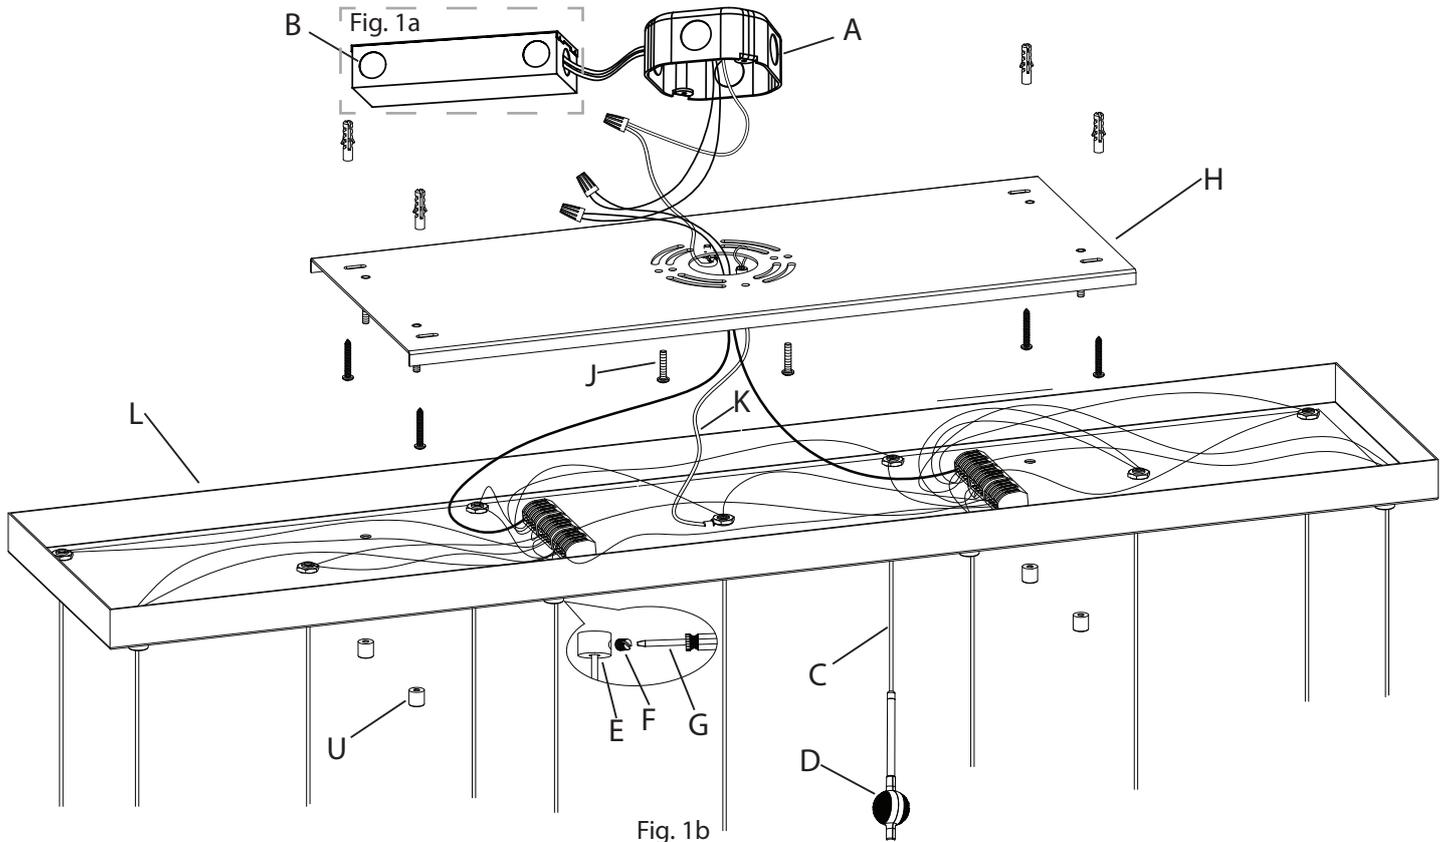

Fig. 1b
1. Shut off power to the Outlet Box (A).
2. Install the Power Supply (B) in a remote and accessible location near the fixture in accordance with local electrical code. Make appropriate electrical connections using wire nuts:
- a. Connect the Power Supply's (B) live wire (black) to the live supply wire.
- d. Connect the Power Supply's positive (+) output wire (red) to the required length of red wire (not included) to reach the Outlet Box (A).
**Power Feed Installation (Fig. 1b):**
3. Feed the Power Connector Cord (C) to the Universal Hub (D) through the Bushing (E) on the Power Feed. Adjust the cord length as desired, and secure with the Slotted Set Screw (F) using the provided Screwdriver (G). Reserve excess Cord in the canopy.
4. Attach mounting plate (H) to the outlet box (A), secure with outlet box screws (J). **CAUTION: Fixture must be supported independent of outlet box. Customer is responsible for ensuring appropriate ceiling construction to support the weight of the fixture.**
5. Loosen the screws on the safety cable coupling (K) and undo the loop. Pass the safety cable through a hole on the mounting plate (H) and insert the end back through the coupling to form a loop. Tighten the coupling screws to secure the safety cable.
6. Connect the fixture wires to the lever nuts (R) by pulling up on the lever for an empty slot, inserting the wire, and pushing the lever back down to lock. The white inner conductor (S) and black outer conductor (T) on each cord (C) must be connected to separate lever nuts, as shown in Appendix B. If shortening of the cord is necessary see Appendix A.
7. Reserve extra cords (C) and lever nuts (R) in canopy (L).
8. Attach canopy (L) to ceiling pan (H), secure with finials (U).